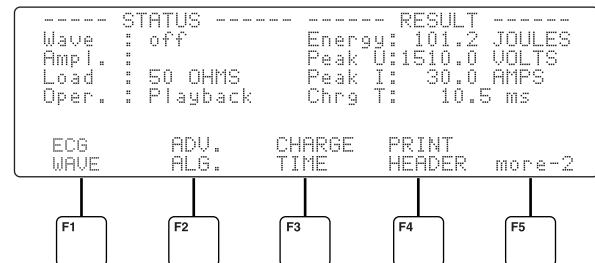

Figure 23. Charging Time
5. Charging time appears in the display as 'Chrg T: xx.x ms' under RESULT. See Figure 23.